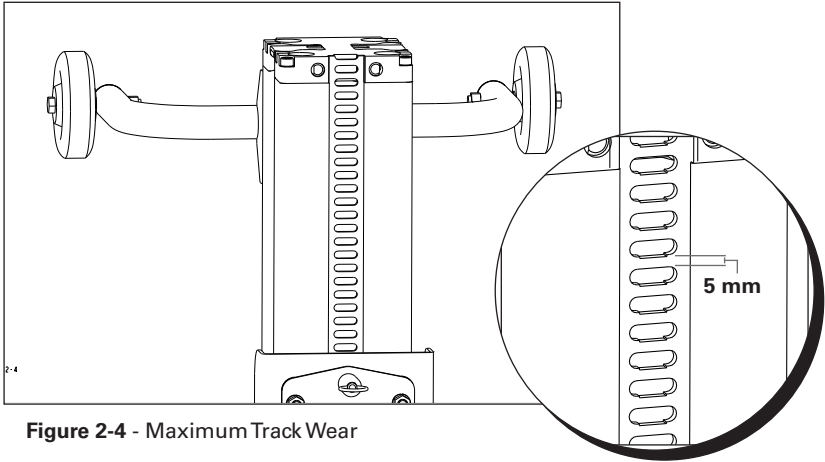

Figure 2-4 - Maximum Track Wear
7. **Track Sections** - Check that the teeth of all the track sections are not excessively worn (5 mm tooth remaining), bent, misshapen or missing. (See Figure 2.4)